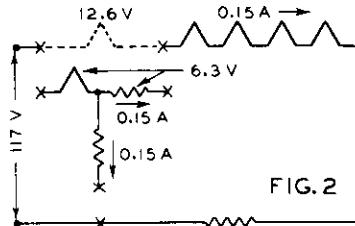
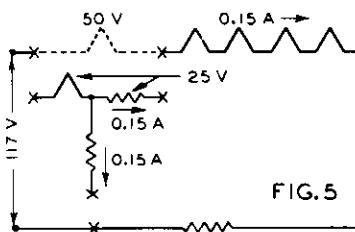

FIG. 2
FIG. 5
**FIG. 2—To substitute a 6.3 v. 300 ma. type for a 12.6 v. 150 ma. type** in string position as indicated, calculate value of resistor  $R$  which must shunt all components in the heater string except the substitute type. Using the formula  $R=E/I$ , we have
**FIG. 5—To substitute a 25 v. 300 ma. type for a 50 v. 150 ma. type** in string position as indicated, proceed as in discussion for Fig. 2. Value of shunt resistor  $R$  is